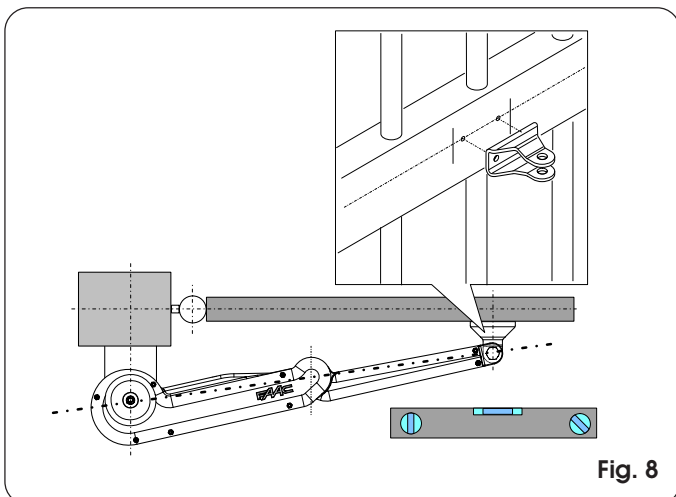

Fig. 8
- Temporarily secure the front fitting to the fully extended operator with the 3 rotation points aligned (Fig. 8). Rest the fitting on the leaf and mark out the fixing points. Check if the operator and fitting are perfectly horizontal.
Re-lock the operators as shown in Fig. 11, making sure that the three rotation points are well aligned (see Fig. 8).